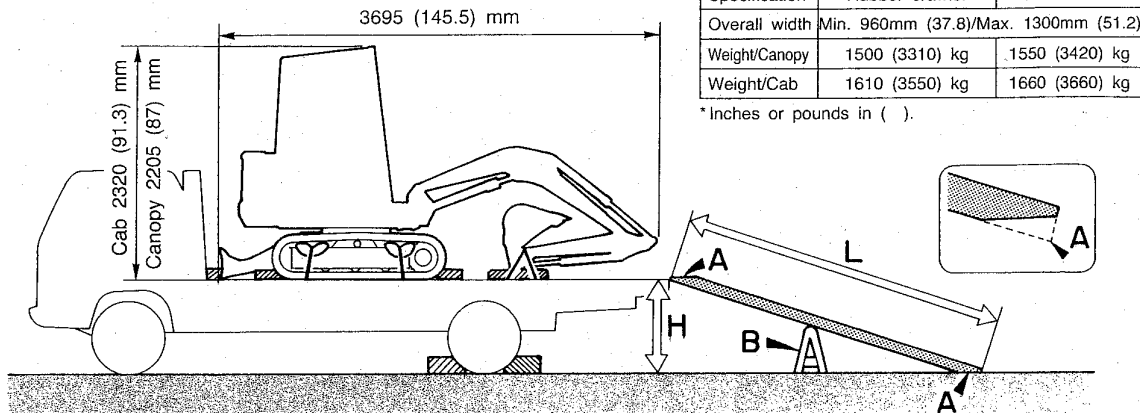

Figure 1
3. Once on the bed, slowly lift the boom, slew, and set the excavator as shown in Figure 1.
4. When unloading, from the posture shown in Figure 1, lift the blade, extend the arm over the ramp, and climb down the ramp using the hoe attachment as you would a cane.
Posture During Transportation (refer to Figure 1)
- Set down a wooden block as shown in Figure 1, and slowly lower the hoe attachment onto it. Also lower the blade.